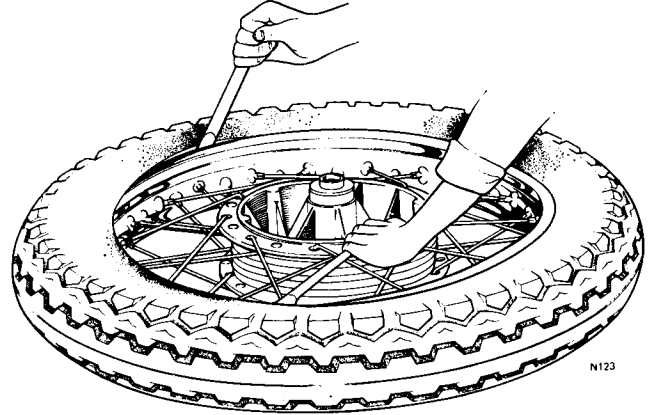

Fig. H19 Two tire levers in use to remove first bead of tire
- 8 Remove the first lever and re-insert at the next stage, continuing round the rim a little at a time (see Fig. H19) until the beading can be pulled clear of the rim.
- 9 Remove the first lever and re-insert at the next stage, continuing round the rim a little at a time (see Fig. H19) until the bead can be pulled clear of the rim.